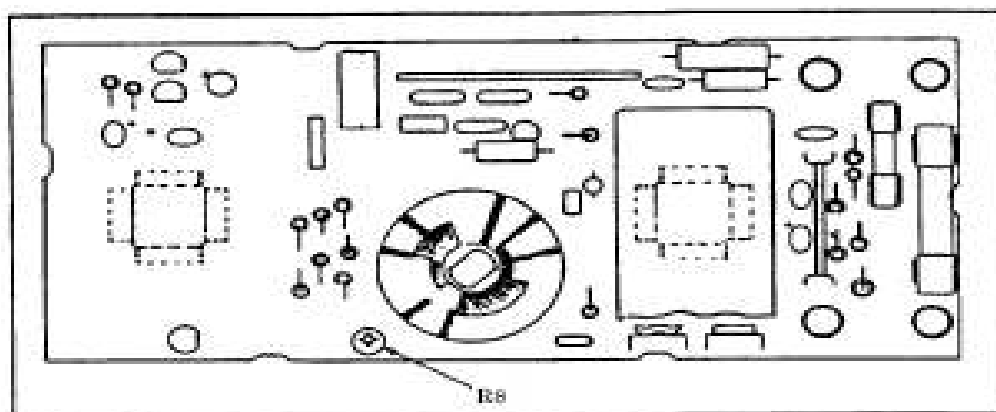

Figure 1. Dc voltage - adjustment location.
- (1) Set function switch to V $_{DC}$.
- (2) Set calibrator for a 3 V dc output.
- (3) Adjust R8 (fig. 1) for a TI indication of 3.000 V dc.
- (4) Set calibrator for an output of .3000 V dc.
- (5) Set function switch to 300 mV; perform a(2) through (6) above.